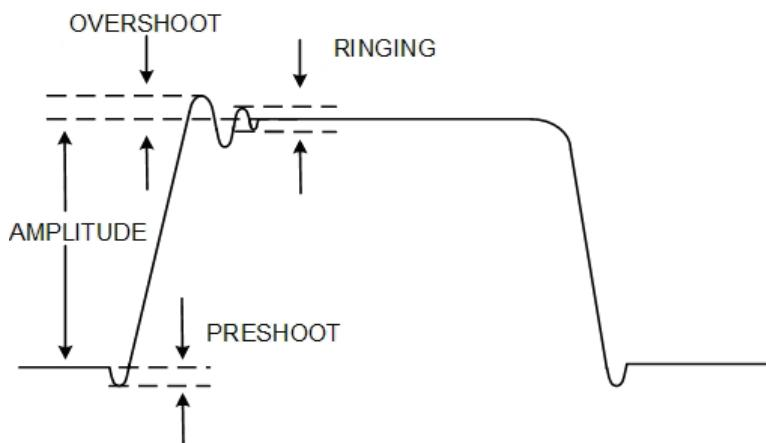

Figure 4. Output pulse characteristics.
- (1) Set pulse width to **SQUARE WAVE**.
- (2) Measure rise and falltime, using standard measurement technique. Rise and falltime, as indicated on oscilloscope, will be less than 3.5 ns.
- (3) Measure preshoot, overshoot, and ringing (fig. 4), using standard measurement technique. If preshoot, overshoot and ringing, are not less than 5 percent of pulse amplitude, perform **b** (1) below.